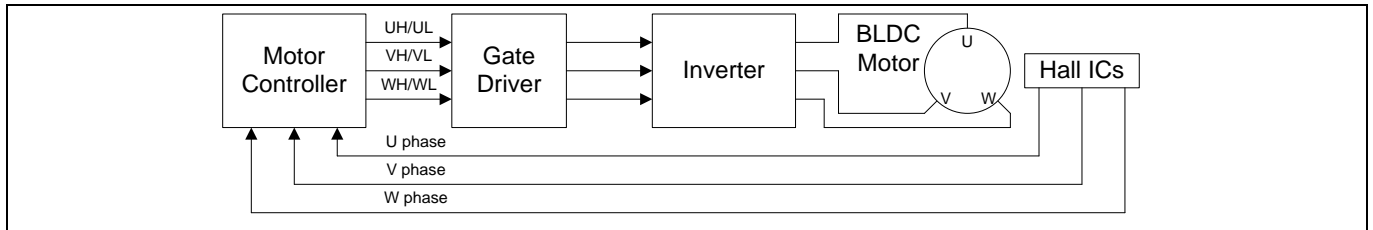
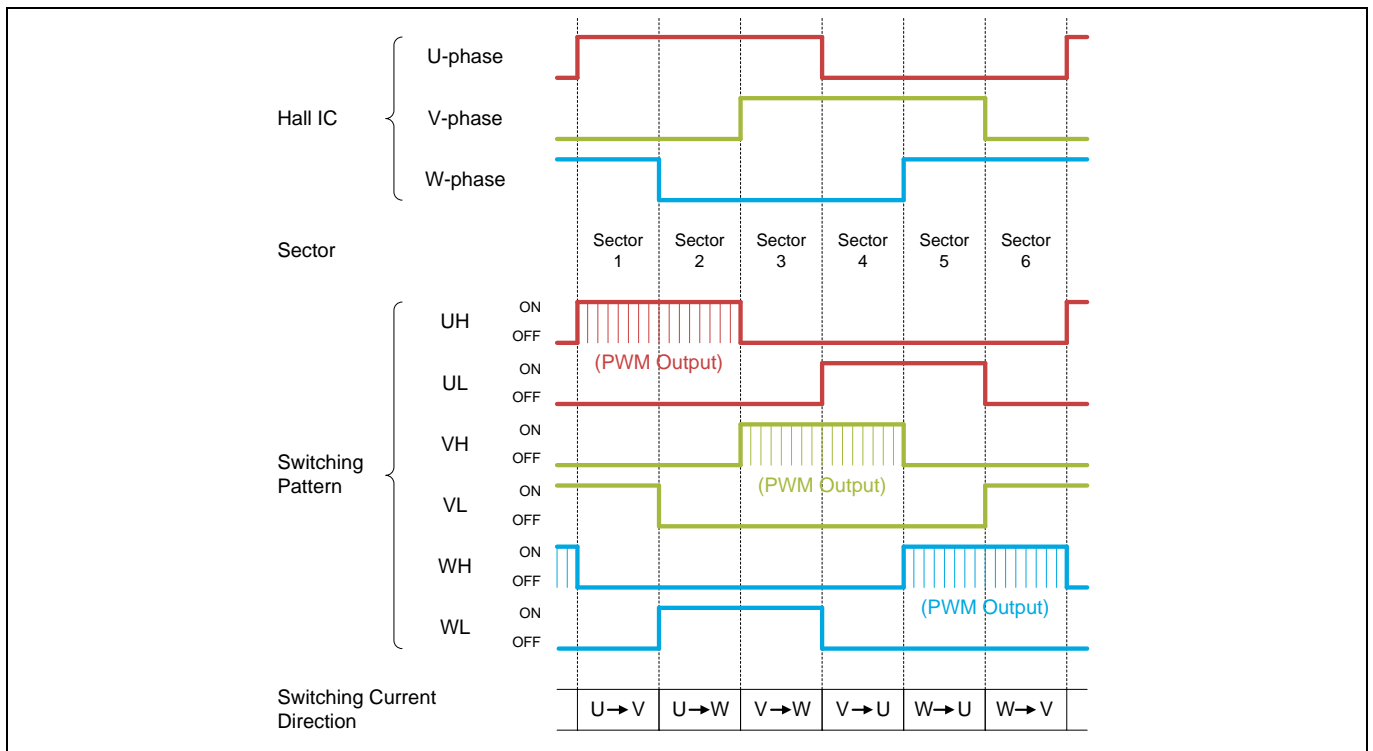
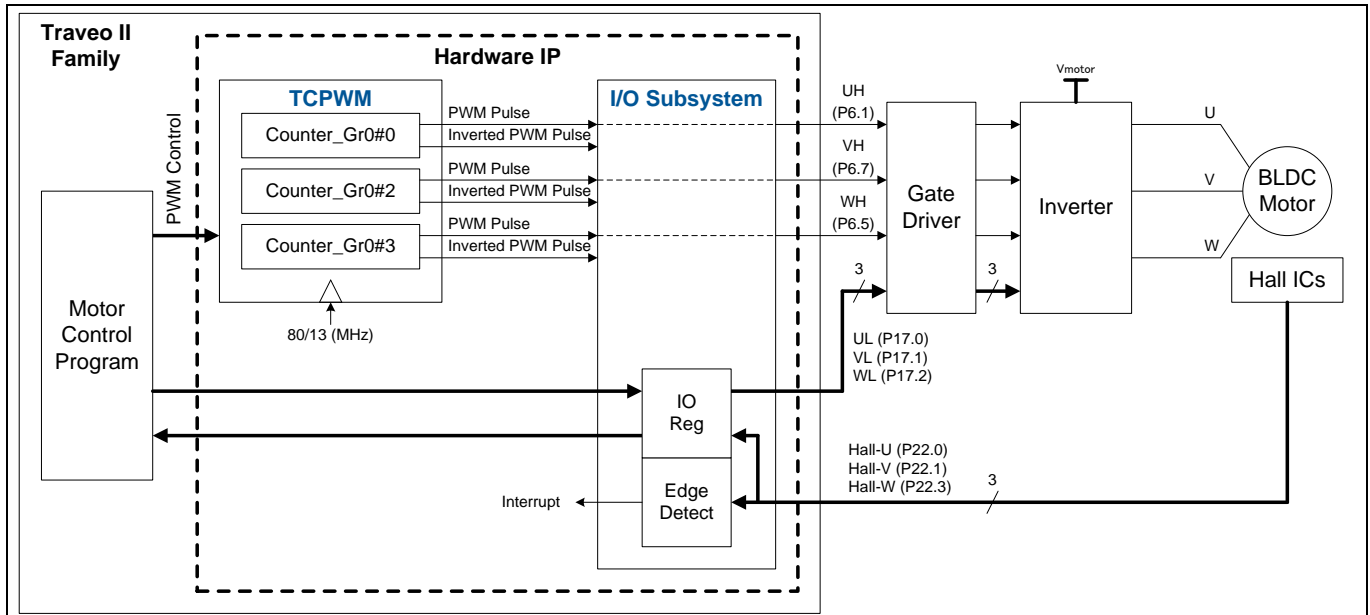

Figure 1 Block Diagram with 120-degree Commutation Control
Figure 2 Timing Chart with 120-degree Commutation Control (for CW)
Figure 3 Example for Configuring 120-degree Commutation Control Using Hall ICs with Traveo II Family
Figure 1 shows the block diagram with 120-degree commutation control and **Figure 2** shows the timing chart for clockwise (CW) rotation with 120-degree commutation control. Generally, in 120-degree commutation control using a Hall IC, a motor rotates by controlling the direction and strength of the current flowing in the motor based on the rotational position of the motor from the Hall IC.
In **Figure 2**, the output of Hall IC shows the motor rotational position. Three Hall IC (U-phase, V-phase, and W-phase) are implemented on the motor at every 120-degree. Therefore, the six patterns that are output at every 60-degree depend on the rotation position. The sectors (1 to 6) are determined according to the output pattern from the Hall IC, and the direction of the current is determined according to the sector.
In general, these signals control the current to the motor via the inverter circuit. Current direction flows from Hi-side to Low-side. In sector 1 in **Figure 2**, UH and VL are ON. Therefore, the current flows from U-phase to V-phase (switching the current direction in **Figure 2** shows the current flow in each sector.)
Figure 3 shows an example for configuring 120-degree commutation control using Hall ICs with Traveo II family. This application note explains the use case shown in **Figure 2**.